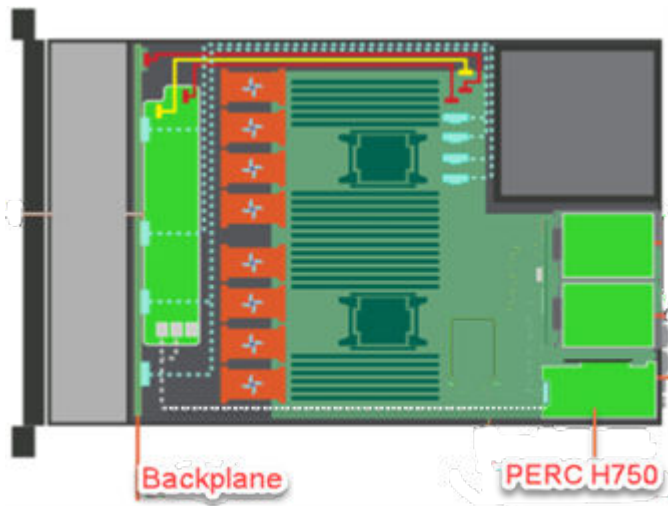

Figure 38: PERC H750 card location
2. Open the server lid and locate the PERC H750 card located in right rear (as viewed from the front) of the server installed in PCIe slot 1. See Figure 38: PERC H750 card location on page 136 for H750 location.